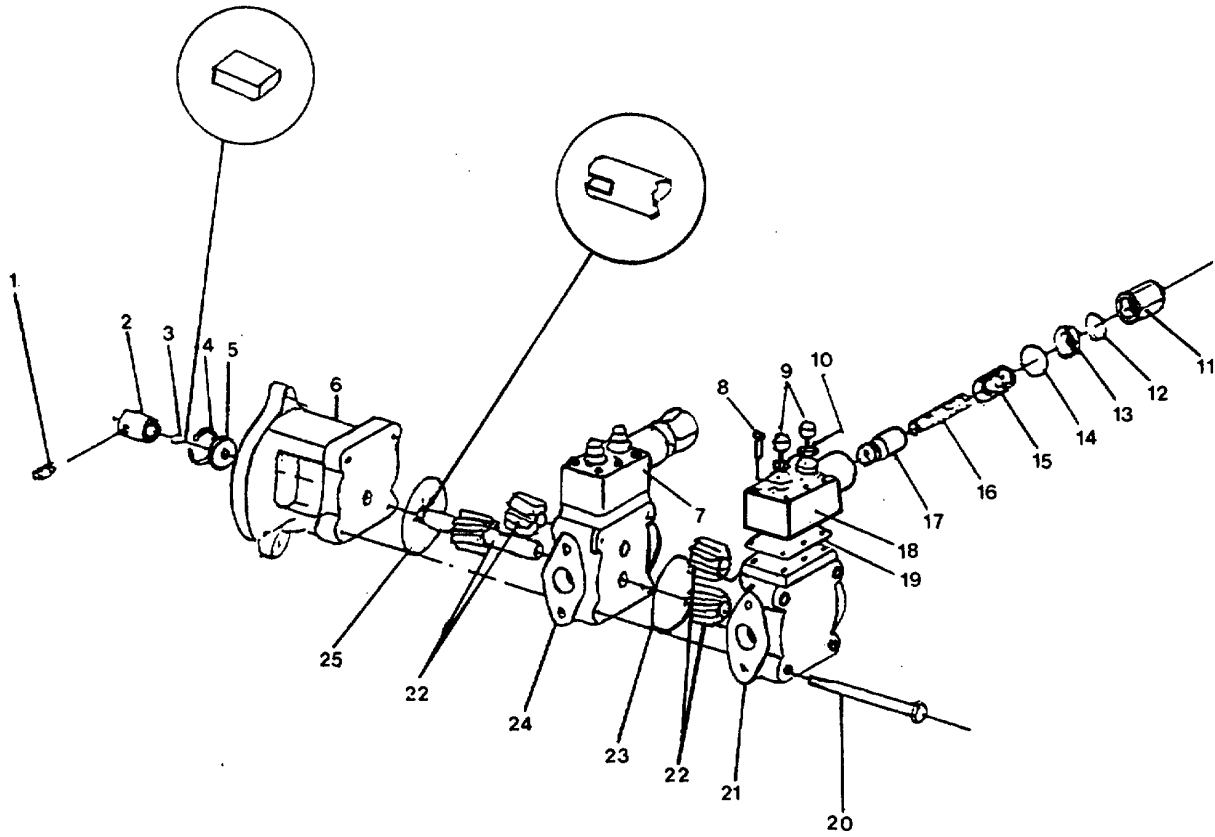

FIGURE 3-8. Double Gear Pump Assembly.
**3-15. Repair Double Gear Pump Assembly. (Figure 3-8)**